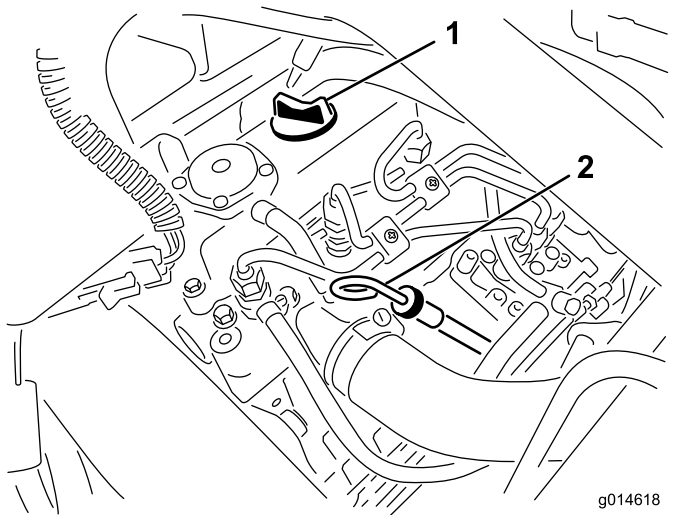

Figure 31
- Remove the dipstick and wipe it with a clean rag (Figure 31).